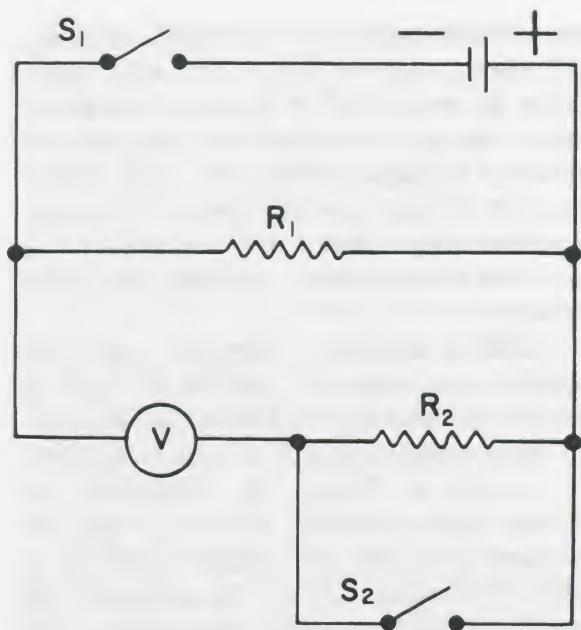
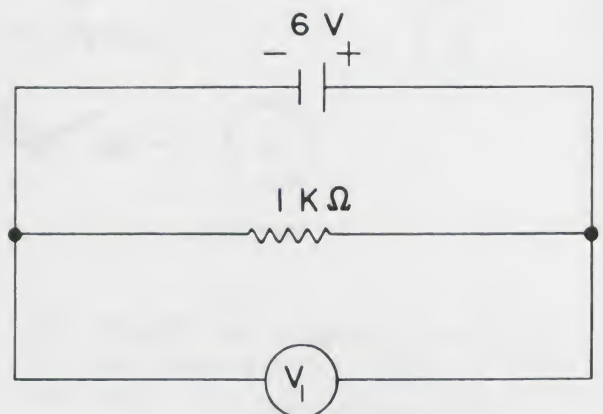
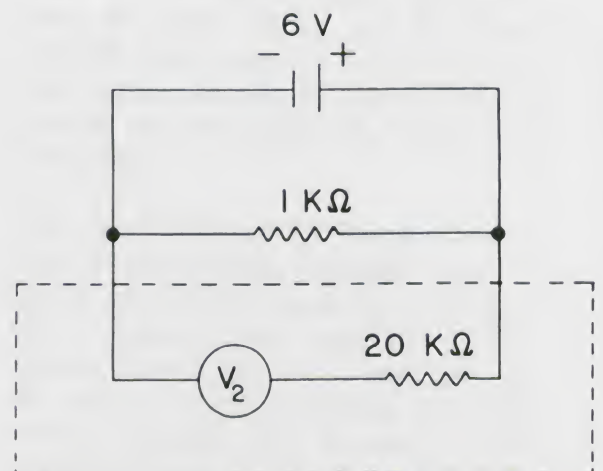

Figure 5.
Figure 8A.
Figure 8B.
3. Now identify the components needed to wire the circuit shown in Figure 5. Do the wiring. Then ask your instructor to check it for you *before* you close switch  $S_1$ . Record the voltmeter reading with  $S_2$  open and with  $S_2$  closed. Record the values of  $R_1$  and  $R_2$ . When finished, disconnect the circuit. Later in the module you will see how this circuit can be used to change the range of a voltmeter.
What if you have a voltmeter which will measure a maximum of only 10 V, but you need to measure 100 V? Figure 8 is similar to the circuit used in Step 3 of Experiment A-1. The circuit of Figure 8A corresponds to Figure 5 when switch  $S_2$  is closed; Figure 8B corresponds to the case when switch  $S_2$  is open. The meter labeled  $V_1$  measures the “true” potential difference across the  $1\text{-K}\Omega$